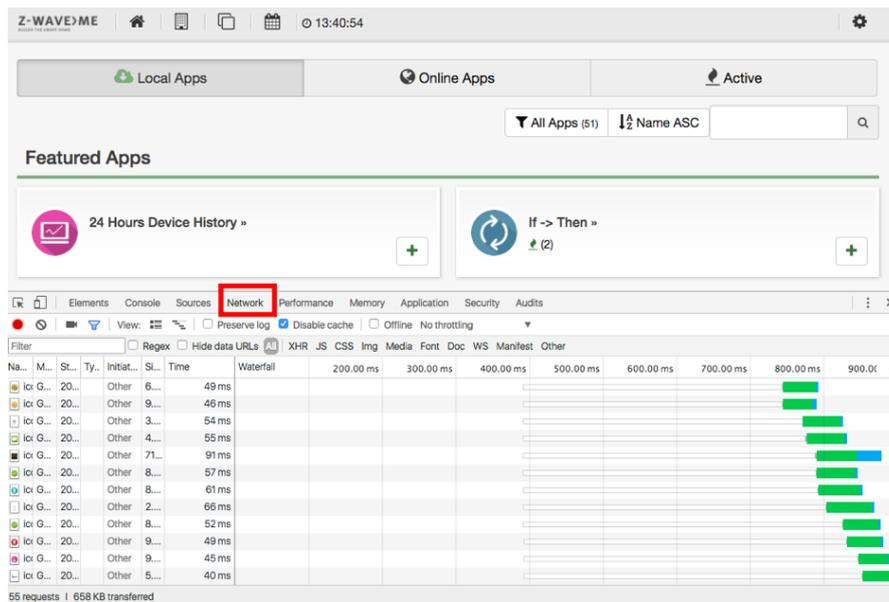

Figure 9.4: Web browser debug interface
1. Open the JavaScript Debug console. You find this option on the browsers menu under `View >> Developer`. Figure 9.4 shows the web browser with debugger active.